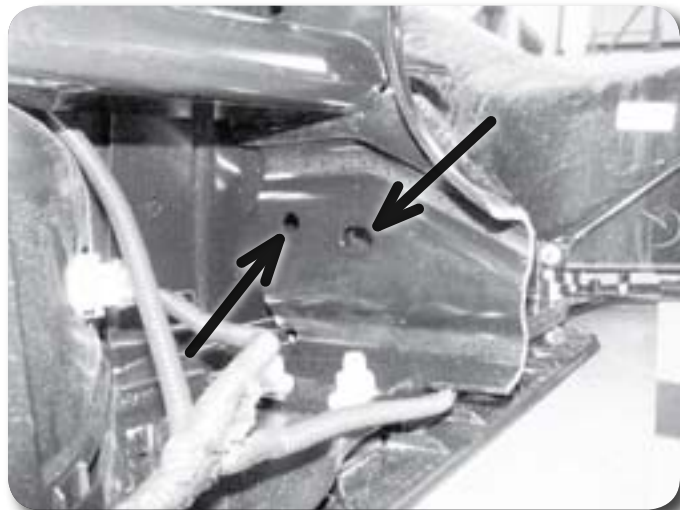
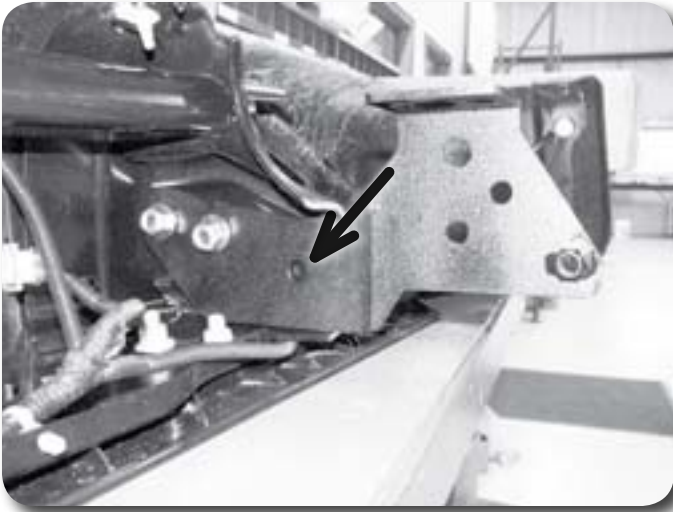

Figure 34
Figure 35
13. Locate the existing hole and slot in the bumper bracket that was trimmed **Figure 34**. These are located farther inside the bumper. Attach the new provided bumper brackets to the bumper using these existing holes and slots. Fasten the new brackets to the factory bracket with 1/2" x 1-1/4" bolts, nuts and 1/2" SAE washer. The brackets should mount to the inside surface of the factory bracket and offset toward the outside of the bumper **Figure 35**. Adjust the brackets so they are visually square with the top edge of the factory bracket and snug hardware.
14. Using the new bumper brackets as templates. Mark the third bracket mounting hole to be drilled **Figure 35**. Remove the brackets and drill a 9/16" at each mark.